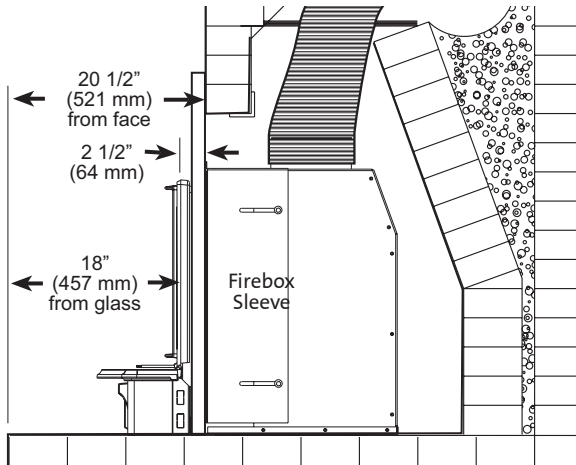

Figure 9. Sleeve adjustment results in minimum firebox extension forward of fireplace face.
- Note that the firebox may extend out forward of the fireplace face depending on where the cabinet sleeve has been set to accommodate flue connection. Always measure hearth protection from the final, installed position of the firebox and glass doors. See figures 9 and 10.